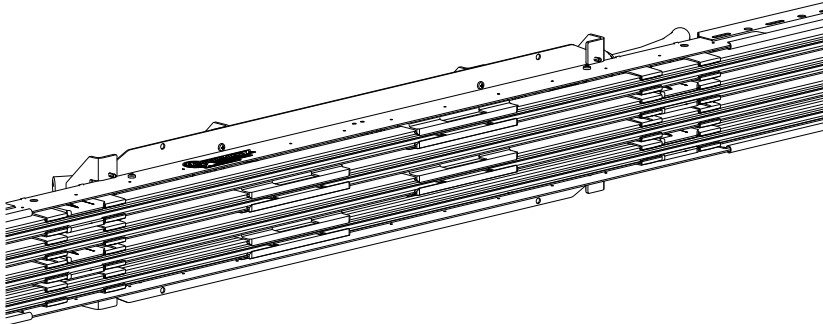
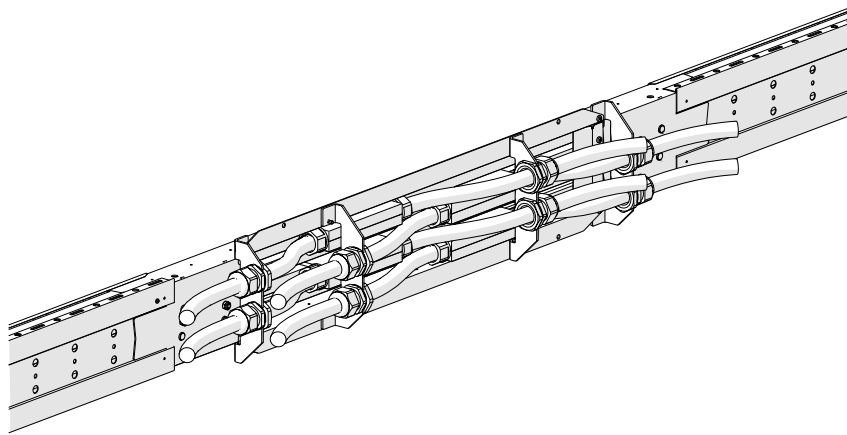

Fig. 43: Front view
Fig. 44: Rear view
8. Install all other conductor rail poles in the same way and remove the auxiliary consoles from the ProShell support profile (see Fig. 43 and Fig. 44).